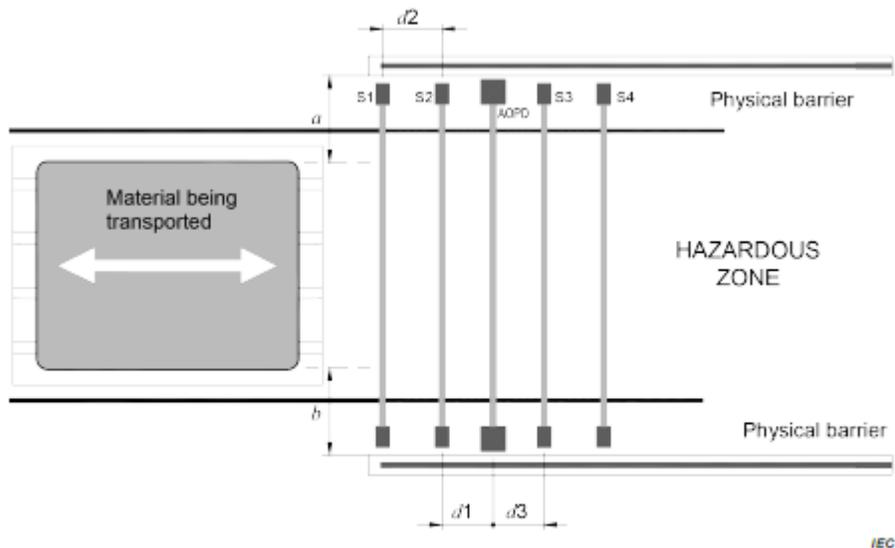

Figure D.4 – Four parallel beams with timing control
- Four parallel beams with sequence control. Used for both entry and exit applications. The four beam configurations have the same hardware arrangement. These configurations are shown below copied from Figure D.4 of IEC 62046: